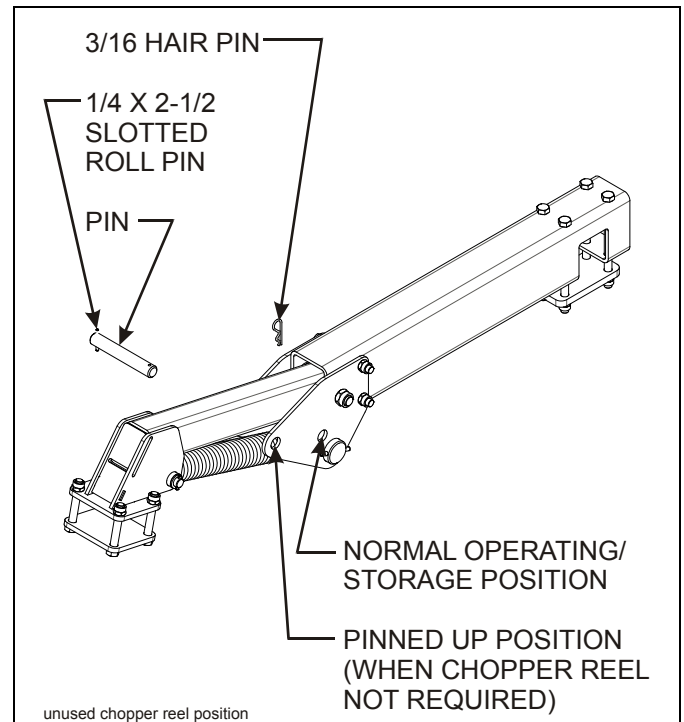

Figure 3-29: Unused Chopper Reel Position
7. If unfavorable conditions exist or the chopper reel is not needed, the arm can be raised and pinned into a higher position creating little or no disturbance of the soil with the chopper reel (See **Figure 3-29**.)